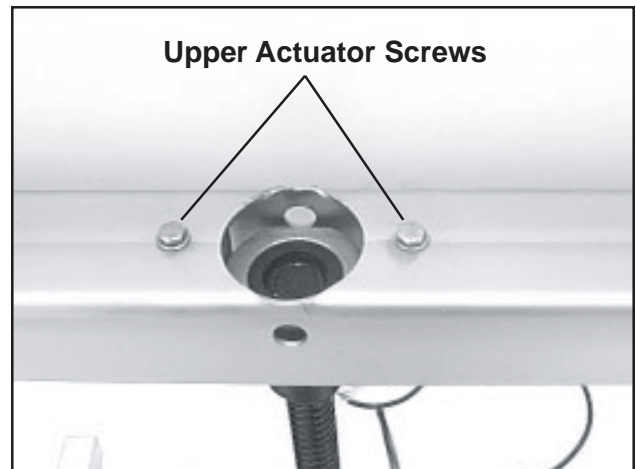

Figure 29. Upper Actuator bolts
14. With a 1/2 in. wrench remove the two upper actuator screws (Figure 29).
8. Attach the upper end of the actuator shaft to the crossbar with the two 1/2 in. screws removed above (Figure 29).